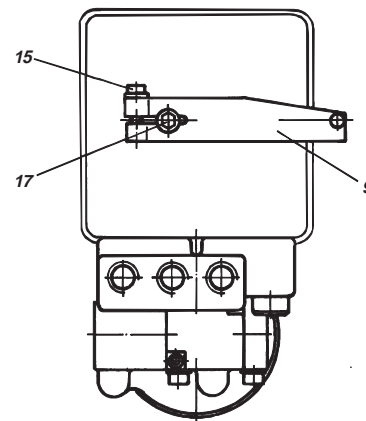

Fig. 17: Attaching feedback lever to the positioner
- Fasten feedback lever **9** for the rotary actuator onto shaft **17** of positioner as shown in Fig. 17.